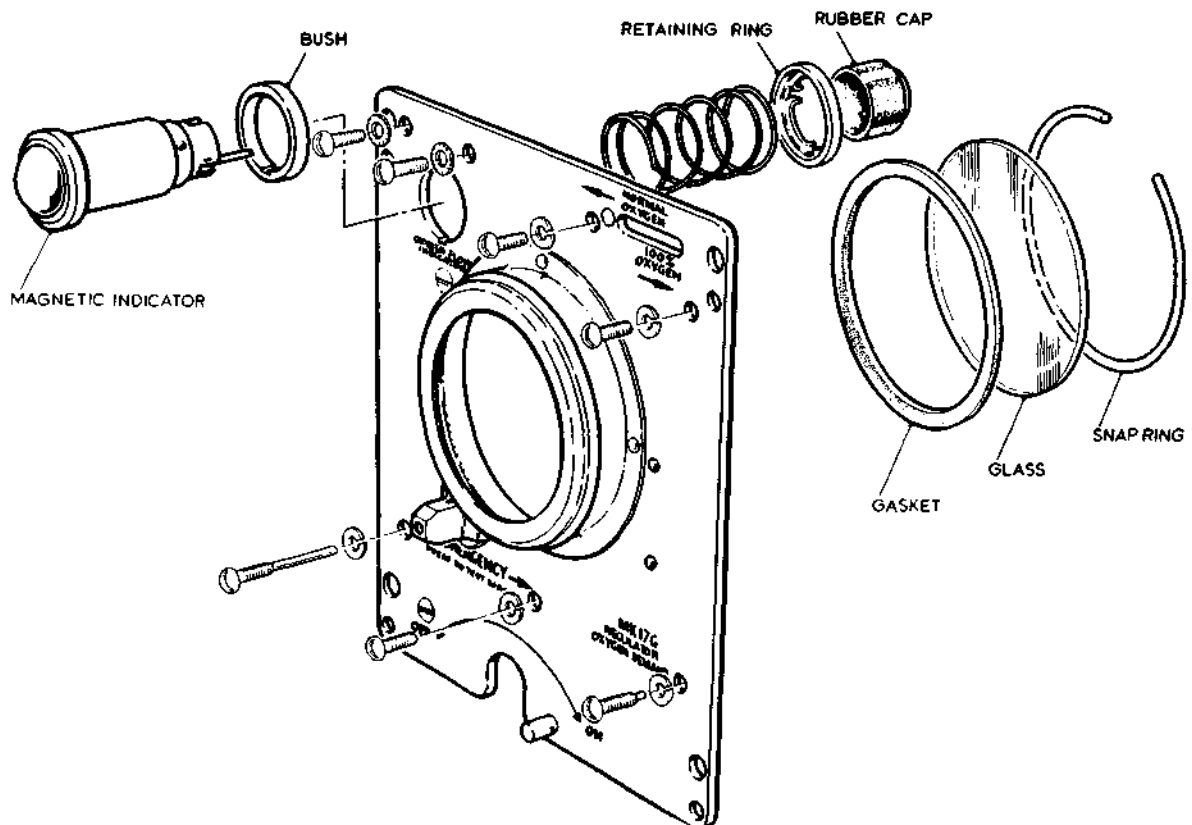

Fig. 5. Pressure gauge glass and magnetic indicator removed
### Renewing a pressure gauge glass (fig. 5)
### Renewing the magnetic indicator (fig. 5)
- (1) Remove the mounting plate assembly as described in para. 49 (2).
- (2) Disconnect the black lead from the indicator.
- (3) Align the slots in the spring retainer with the raised portions on the indicator body and then release the spring. Withdraw the indicator and bush from the mounting plate. Refer to fig. 5.
- (4) Ensure that the new indicator has satisfied the prescribed electrical tests.
- (5) Examine the housing mechanism for cleanliness and for any defects. Ensure that the pressure gauge glass in the mounting plate assembly is clean and secure.
- (6) Fit the bush to the magnetic indicator, assemble the indicator to the mounting plate, and retain with the spring and the cap. Ensure that the pin in the bush enters the locating hole in the mounting plate.
- (7) Pass the black lead through the indicator cap and connect to terminal 1.
- (8) Assemble the mounting plate assembly to the housing in accordance with the instructions contained in para. 49, sub-para. (7) and (8).
- (9) Apply the standard serviceability tests (Chap. 1-1, 1-1-1 or 1-2).
- (1) Remove the seven screws and lockwashers securing the mounting plate assembly to the housing assembly. Refer to fig.5. Ease the mounting plate away from the housing until the back of the magnetic indicator is accessible. Remove the rubber cap, disconnect the blue lead from the indicator and remove the mounting plate assembly, taking care not to damage the pressure gauge dial. ▶
##### 58. Mounting plate assembly (fig.5)